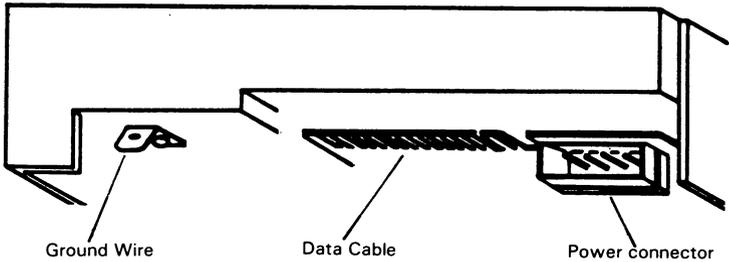

Figure 3
- 5 Install the disk drive as described in your Owner's Manual, connect the cables as shown in Figure 3.
- 6 Connect the Ground Wire, Data Cable, and Power Connector as shown in Figure 3.